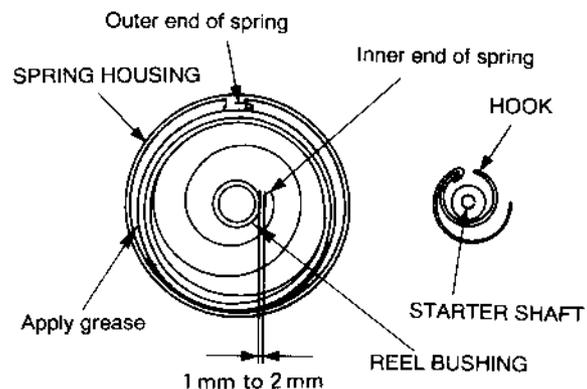

Fig. 73
(2) Check that the spring is securely set in the reel and form the spring end to measure 1mm to 2mm for clearance between inner end of the spring and the reel bushing edge so that the hook catches securely as shown in Fig. 73
- (7) Hold the starter rope as shown in the Fig. 73 and rotate the reel 6 turns by applying the force directly to the reel notch. (pre-winding)
Remove the ring slowly while holding down the spring to avoid getting out of place. The ring can easily be removed by prying it with the tip of a screwdriver. Refer to Fig. 73 for which way the spring must be placed.